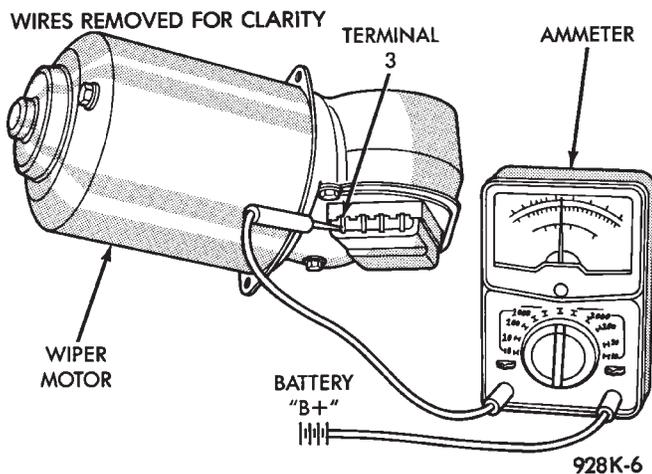

Fig. 11 Ammeter Between Terminal 3 and Battery
(1) Disconnect wiring harness connector at motor. Remove wiper arms and blades. Connect an ammeter between battery (B+) and terminal 3 on motor (Fig. 11).